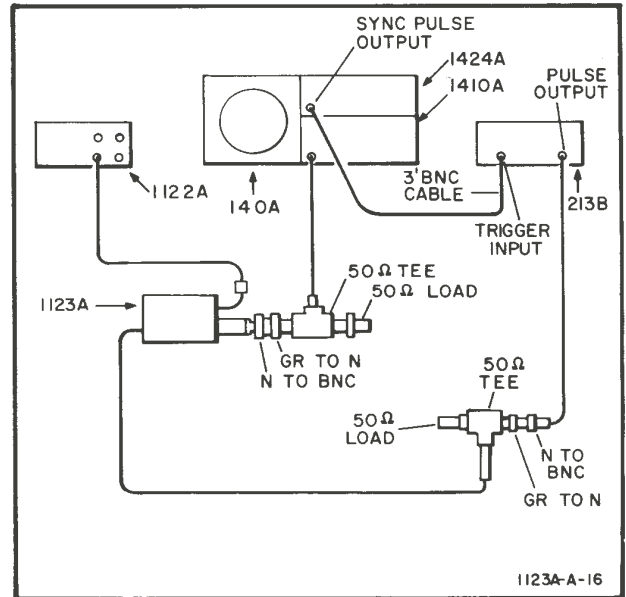

Figure 5-6. Pulse Response Test Set-up
- a. Connect the equipment as shown in Figure 5-6.